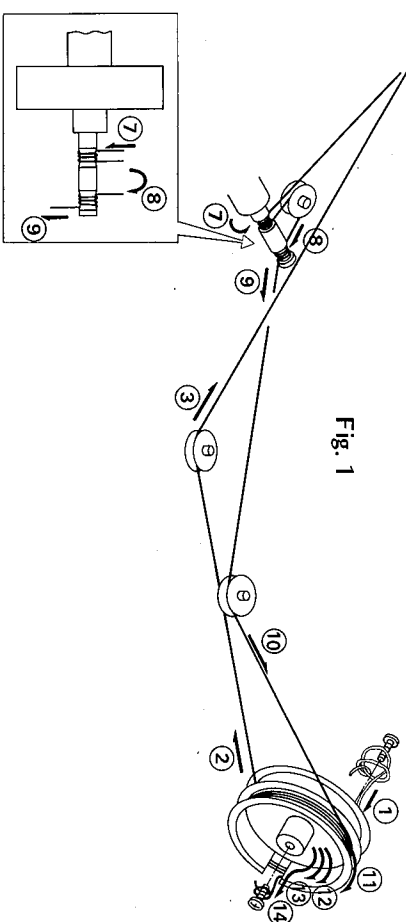

Fig. 1
- Thread the dial cord in numerical order from 1 to 14 as Fig. 1.